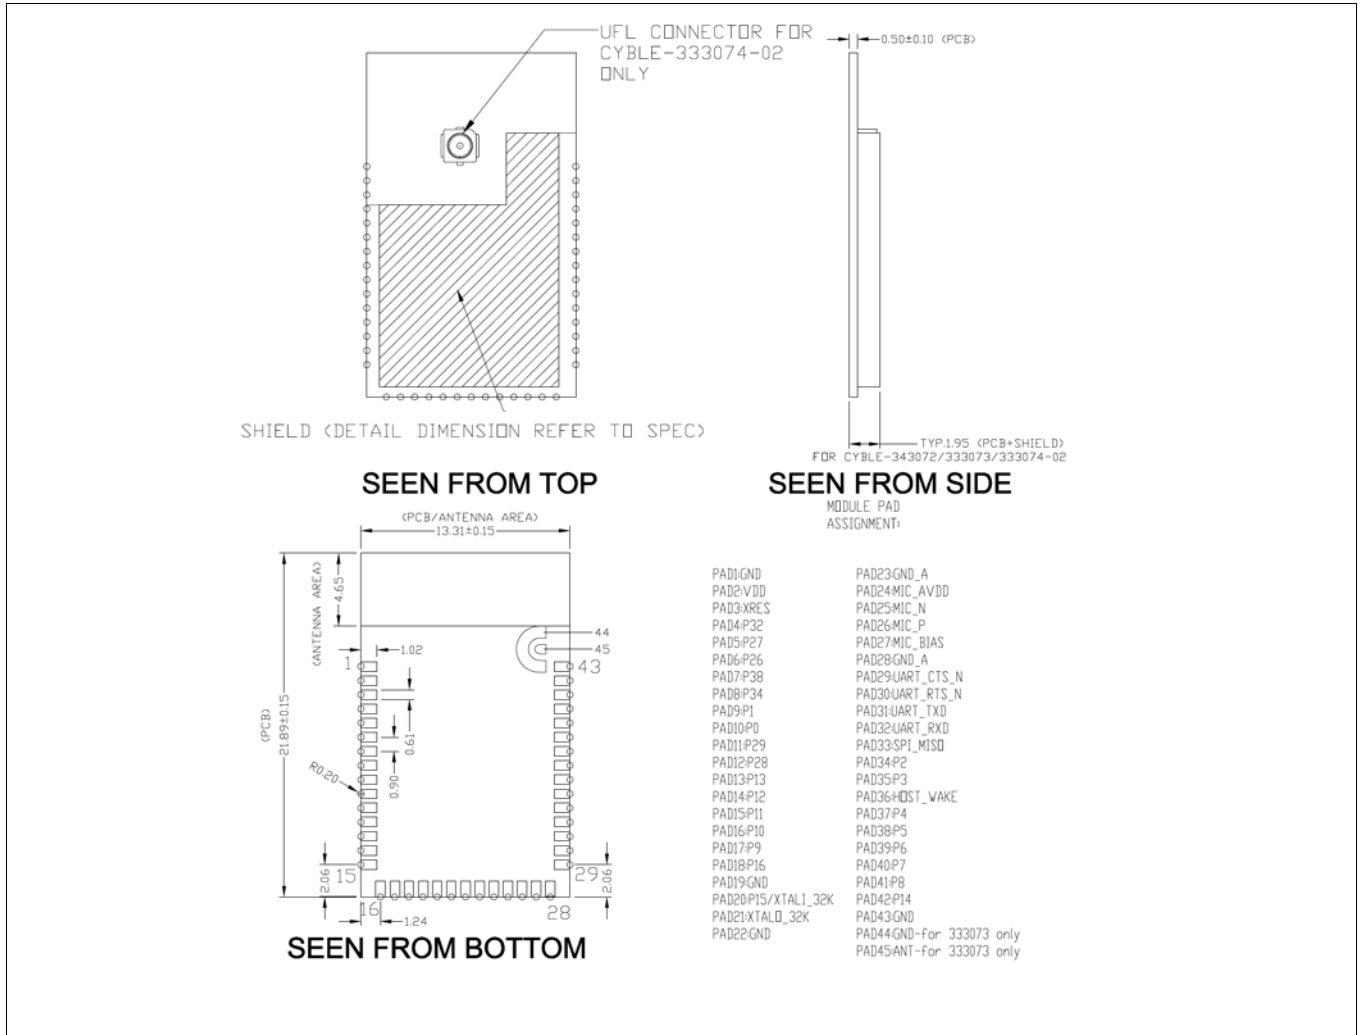
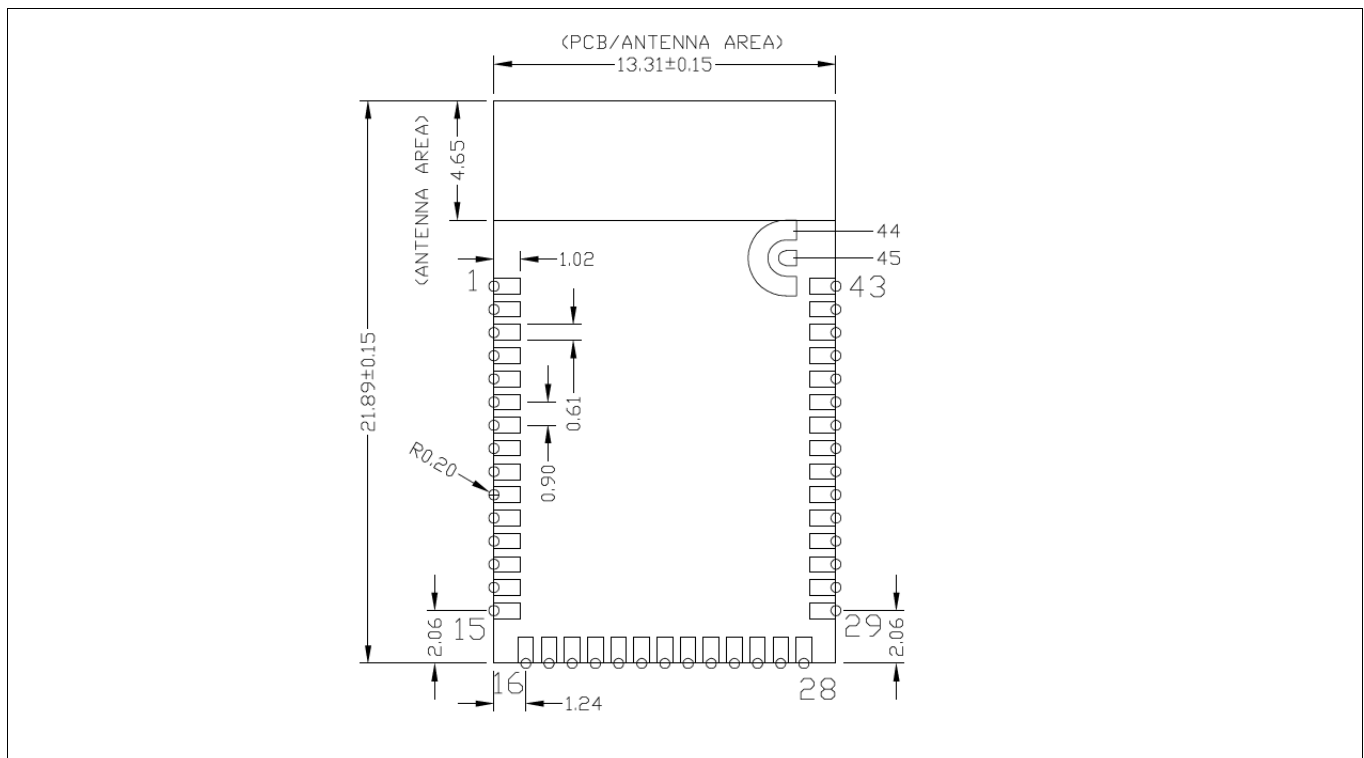

Figure 2 Module mechanical drawing
Figure 3 Solder pad dimensions (seen from bottom)
Infineon reserves the right to select components from various vendors to achieve the Bluetooth® module functionality. Such selections will still guarantee that all mechanical specifications and module certifications are maintained. Designs should be held within the physical dimensions shown in the mechanical drawings in **Figure 2 on page 7**. All dimensions are in millimeters (mm).
See **Figure 2** for the mechanical reference drawing for CYBLE-3x307x-02.
As shown in the bottom view of Figure 2 on page 7, the CYBLE-3x307x-02 connects to the host board via solder pads on the backside of the module. Table 2 and Figure 3 detail the solder pad length, width, and pitch dimensions of the CYBLE-3x307x-02 module.
1. Antenna Area Keepout: The host board directly below the antenna area of the module (see Figure 2 on page 7) must not contain ground or signal traces. This keepout area requirement applies to all layers of the host board.
2. Module Placement: The ideal placement of the Bluetooth® module is in a corner of the host board with the PCB trace antenna located at the far corner. This placement minimizes the additional recommended keepout area stated in item 2. Refer to AN96841 for module placement best practices.